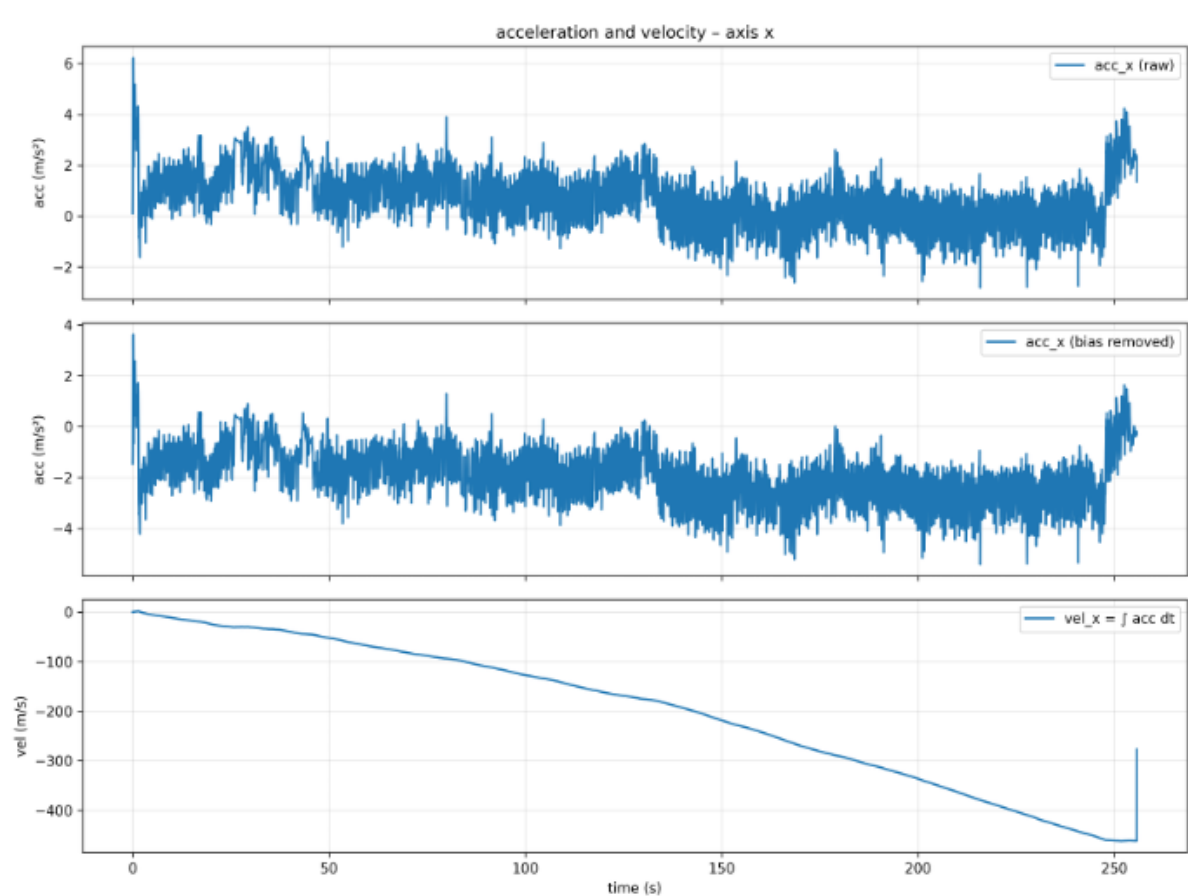

Figure 13: Acceleration and velocity in X-axis
**Task:** Plot acceleration in X and velocity in X (integrate once) vs. time as two subplots (Fig. 13).